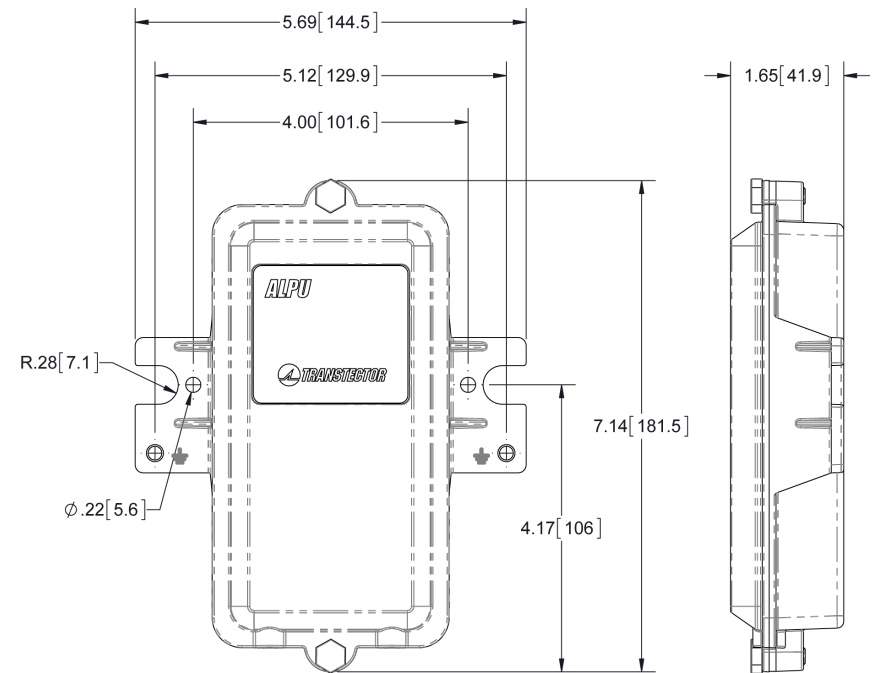
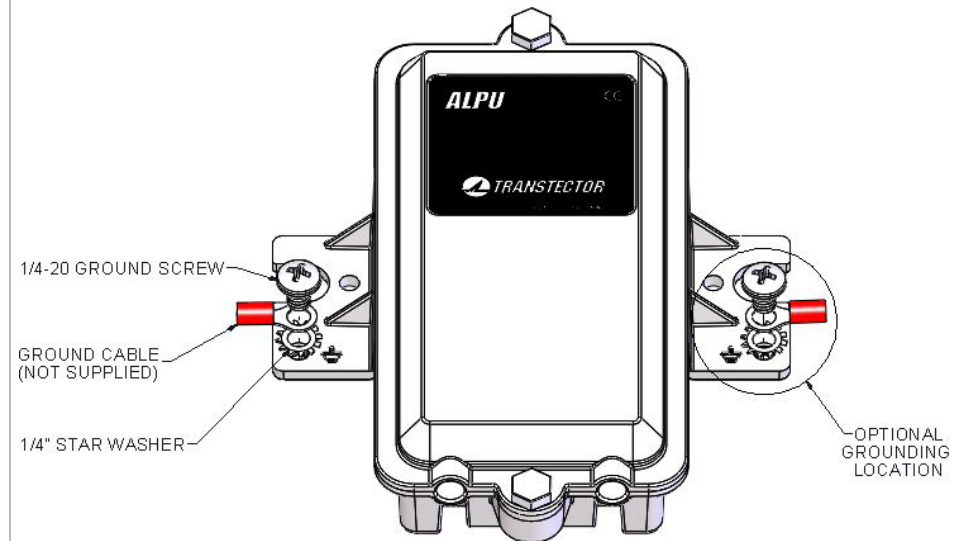

Figure 1. Mechanical outline drawing (inches)
Figure 2. Ground Cable Installation
1. The ALPU SERIES is intended to be installed indoors or outdoors, on wall or pole mount applications. The unit features mounting feet on the sides that mount on 4" center-to-center holes with #10 sized hardware. The mount foot also adapts to 4" diameter pole mounting kits with a 4.5" center-to-center holes and larger hardware. Refer to Figure 1 for mechanical requirements and connector locations. The optimum ground connection on the metal enclosure unit at the mounting flange on either side is shown in Figure 2. Use minimum 8AWG wire for a ground reference attachment. Communication cables with the RJ45 connectors already installed can feed directly into the enclosure. Be sure to install the cables with the unprotected cable installed into the left "in" jack and the protected equipment cable in the right "out" jack. The enclosure features a built in cable retention that grips the cable with a screw down bracket.
2. Mount the unit to an outside surface using the two mounting holes shown in Figure 1.
5. Attach appropriate wire gauge 8AWG as short as possible (less than 3 feet) between the unit and the site grounding point using 1/4" hardware provided in the location shown in Figure 2. Torque to 40-45 in-lbf. Refer to local codes and equipment manufacturers standards before installation